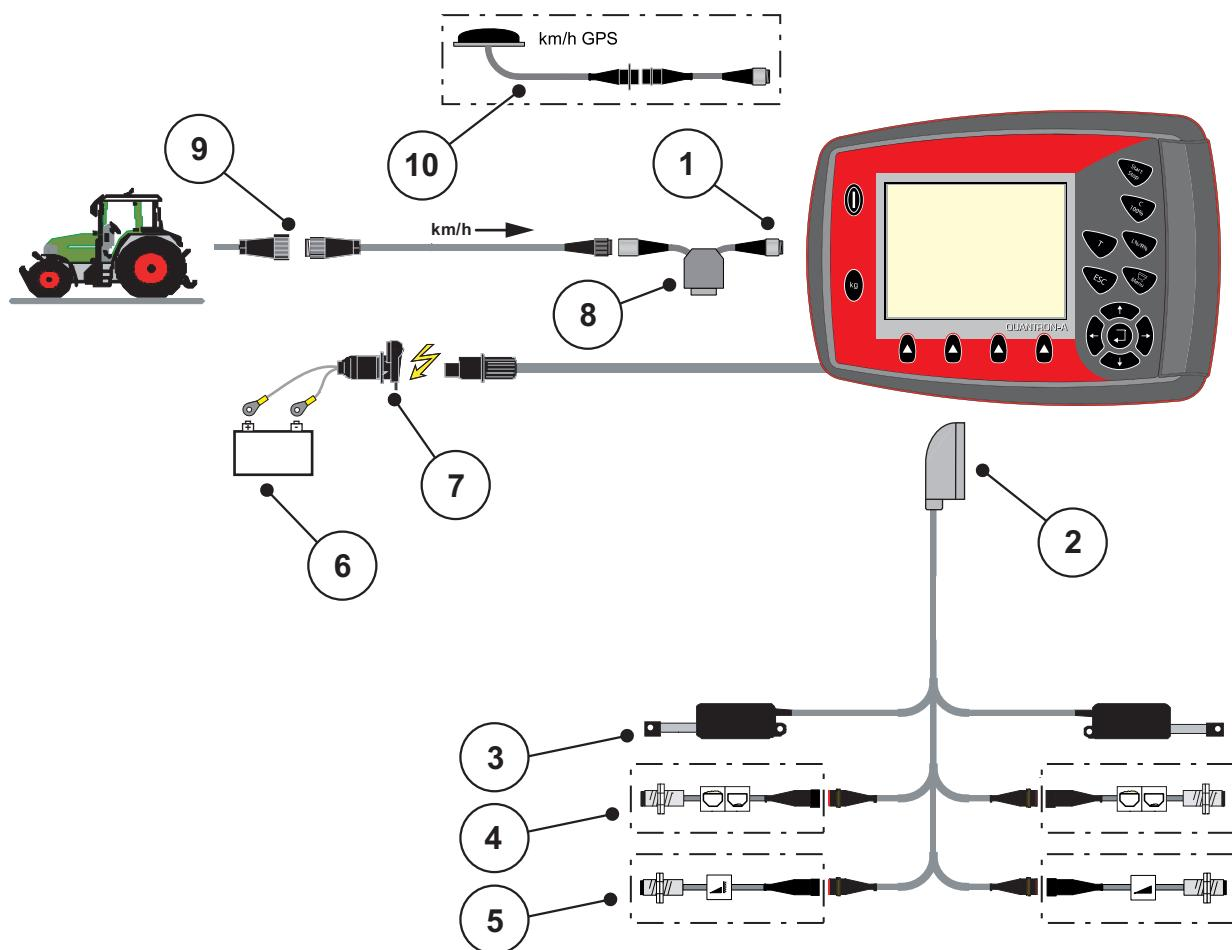
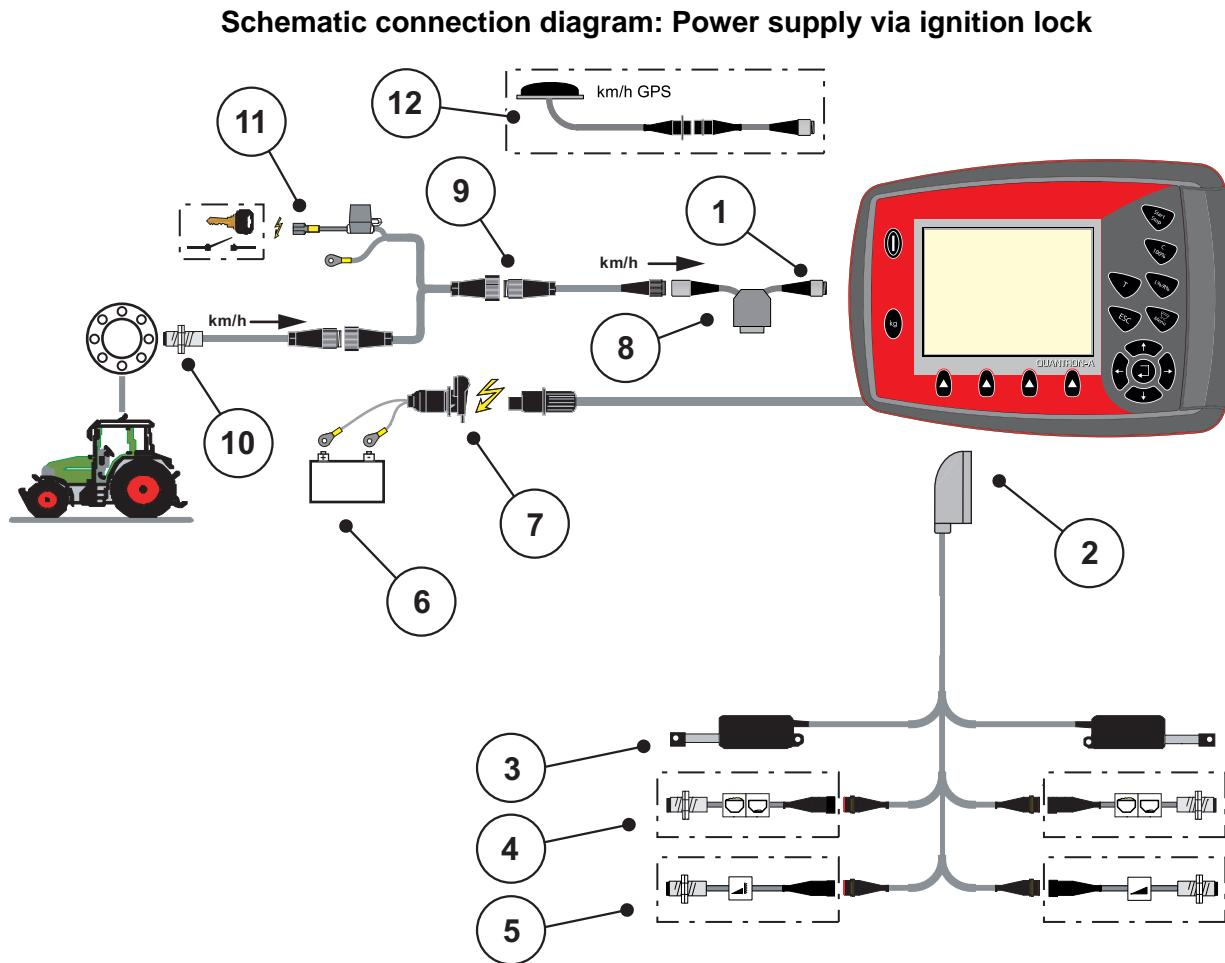

Figure 3.3: Standard schematic connection diagram QUANTRON-A
Figure 3.5: Schematic connection diagram QUANTRON-A
The 7-pin socket for the tractor and the forward speed sensor can be obtained as an expansion kit (option), see figure 3.3 to figure 3.5.
- Connect the control unit to the 7-pin socket or to the forward speed sensor (depending on the equipment, see figure 3.3 to figure 3.5).